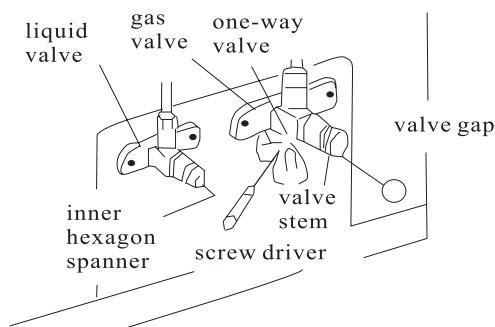

Figure 3-1-4
- Open the element of liquid valve and gas valve to full (See Fig. 3-1-4).